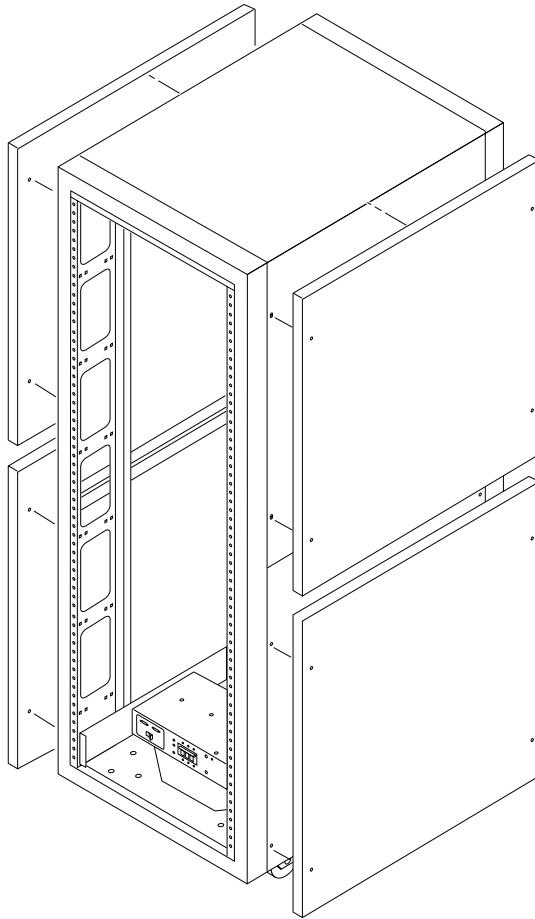

FIGURE 4-3 Removing and Replacing the Side Panels
- Use an Allen wrench to loosen the four 1/4-inch shoulder screws that fasten the panel to the cabinet and remove the panel from the cabinet (FIGURE 4-3).
- **Align the panel screw holes to the cabinet screw holes. Use an Allen wrench and tighten the four 1/4-inch shoulder screws to fasten the panel to the cabinet (FIGURE 4-3).**